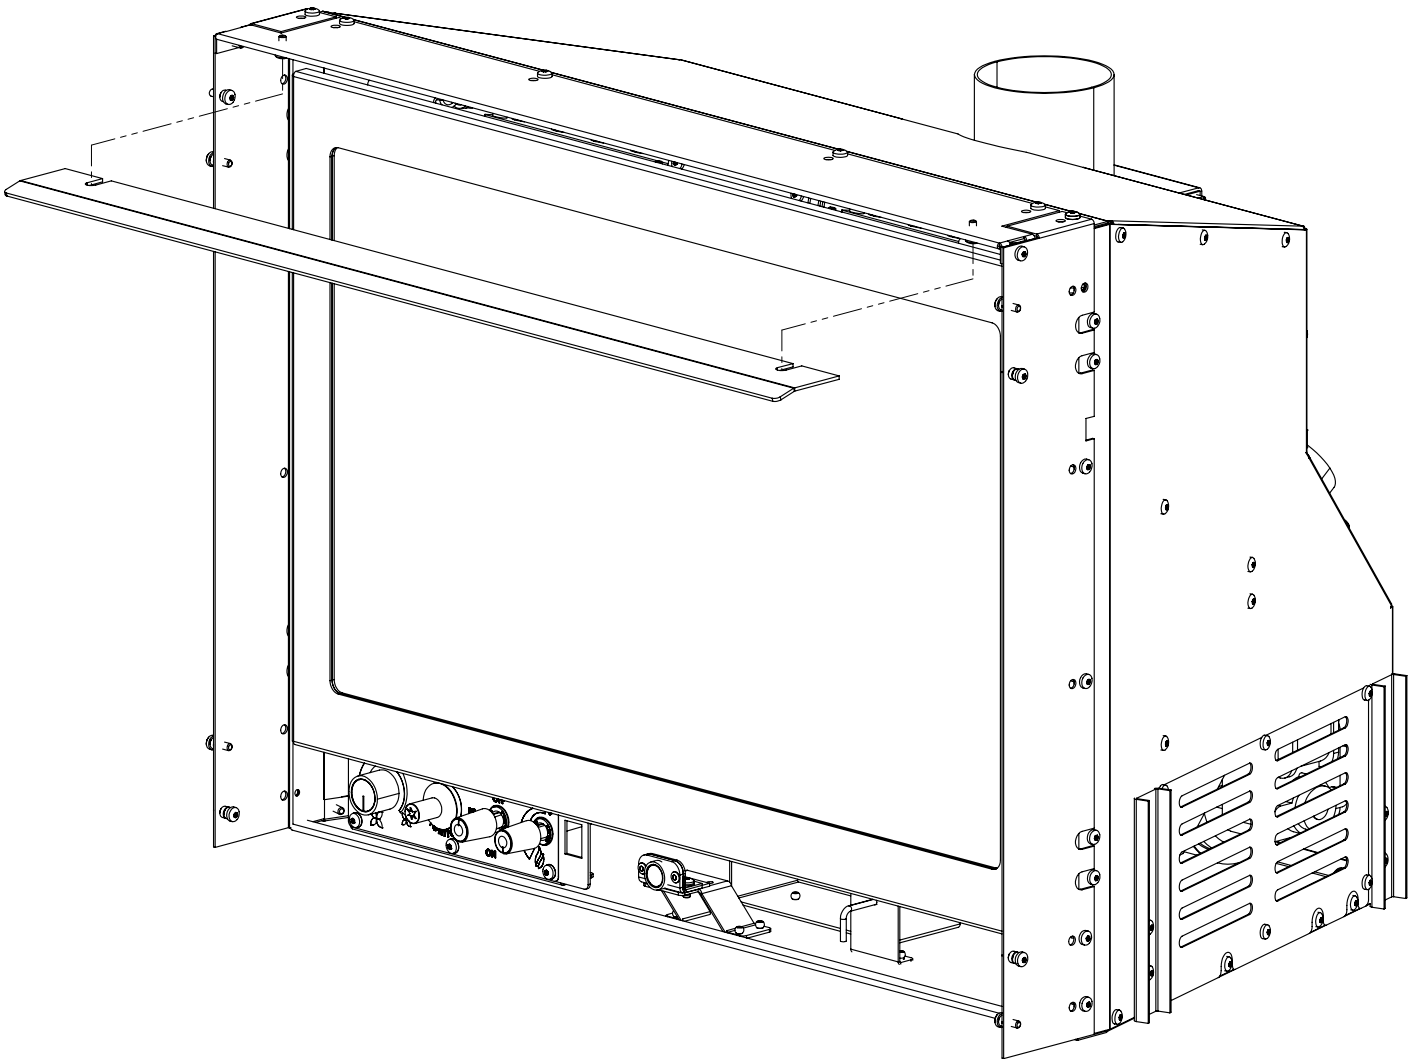

Figure 39: Top Air Deflector Installation
1. Install the air deflector by placing it onto the shoulder spacers that are inside the top edge of the cabinet (see figure 39).